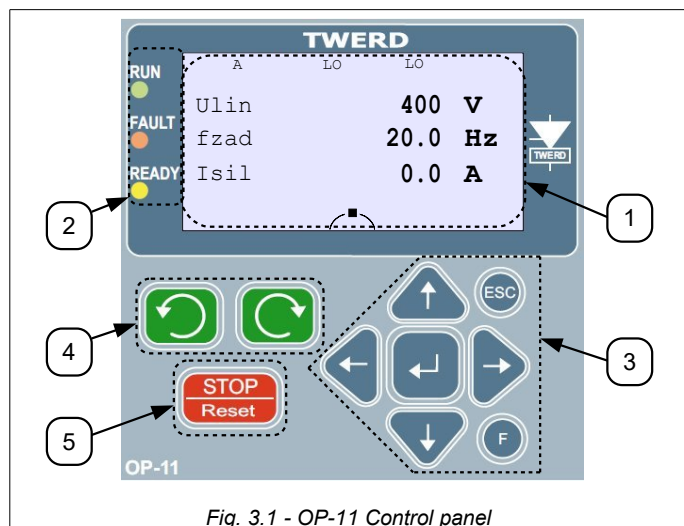

Fig. 3.1 - OP-11 Control panel
The control panel (fig. 3.1) is used for:
Parts of the control panel (fig. 3.1)
- press and hold the „F” function key for 5 seconds - (4) on fig. 3.1,